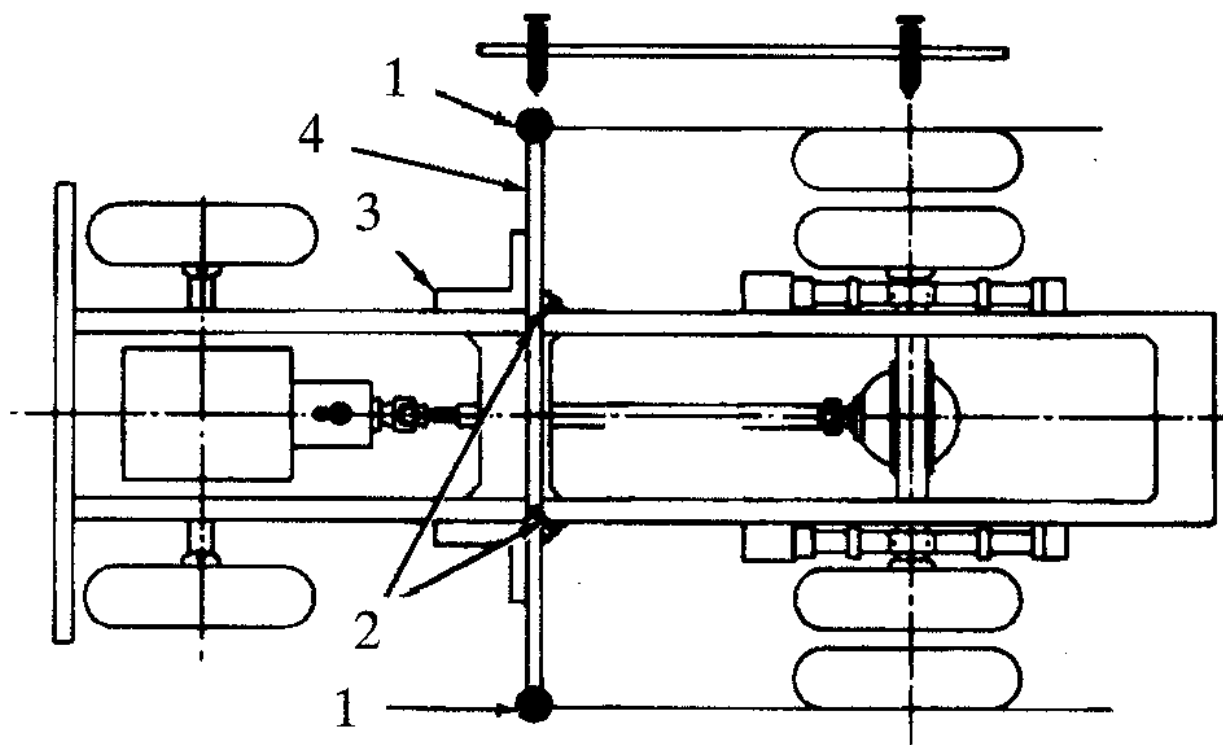

Figure 11 Measure Distance From Plumb Bob Line And Centerline Of Axle, 4X2 Chassis
3. Position a slotted bar such that pointers are engaged in center hole of forward rear axle (6x4) or rear axle (4x2) and plumb line (Figure 11).